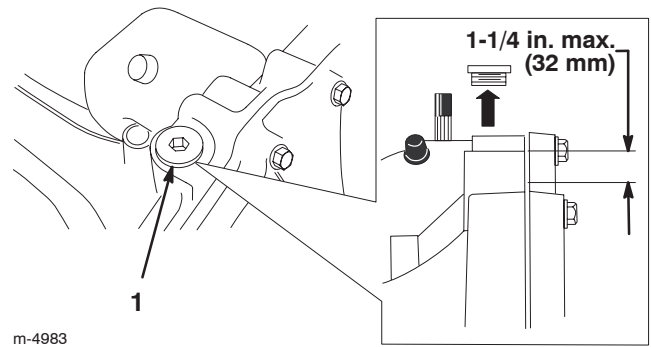

Figure 29
4. Clean around the fill plug (Fig. 29) so that dirt cannot fall into the reservoir if fluid needs to be added.
Note: The level should be a maximum of 1-1/4 in. (32 mm) below the top of the fill port (Fig. 29). Add oil if necessary.